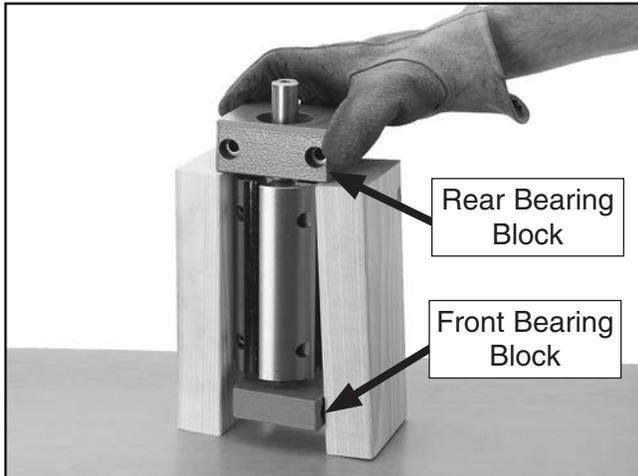

Figure 12. Example of removing rear bearing block.
23. Place 2x4 blocks under rear bearing block, as shown in **Figure 12**.